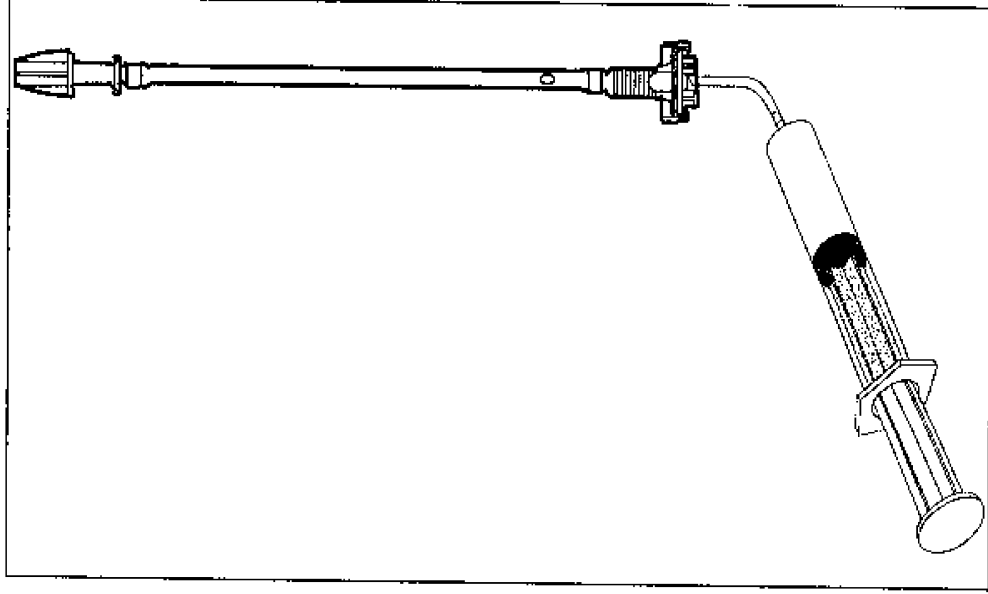

Figure 5-2. Air-In-Line Simulator
2. Install the pumping segment of the AIL simulator (see Figure 5-2) into the pumping mechanism, then press the tubing into the AIL detector.